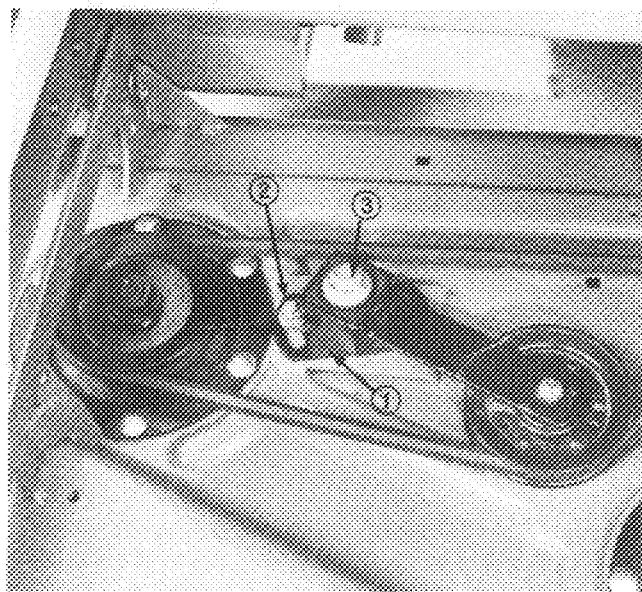

Figure 29
3. Loosen two nuts securing idler plate in place (Fig. 29). Using a socket and torque wrench, tighten the idler adjusting nut (Fig. 29) until proper torque value is achieved.
4. Hold the torque against the belt and tighten the two nuts so idler plate is held securely in place (Fig. 29). Release the idler adjusting nut. Install cover and secure latches.
3. Loosen two nuts securing idler plate in place (Fig. 29) and remove old belt from pulleys.